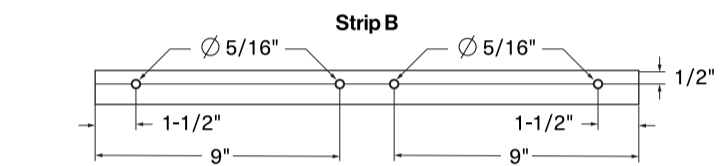

Fig 7b - Fence Strip B hole dimensions
7.2 On (Strip B), mark lines at 1-1/2" (38mm) and 9" (228mm) in from each end, and a line down the length of the strip 1/2" (12mm) in from an edge. Drill 5/16" (8mm) diameter thru holes where these lines intersect. These holes will be the beginning and end points of the dovetail hardware slots [Fig 7b].